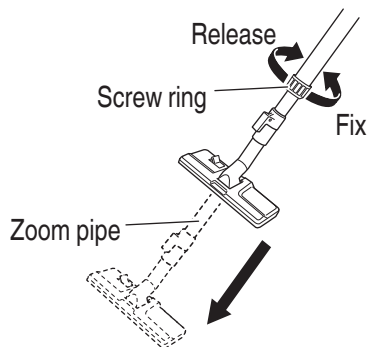

Fig. 20
- (2) Next, loosen the screw ring on the zoom pipe and adjust to the length appropriate to the task. After the adjustment, make sure the screw ring is secure by securely tightening it. (see Fig. 20)